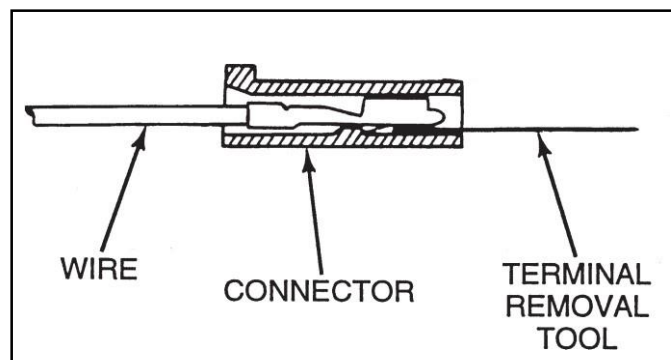

Figure 24
5. Insert an appropriately sized pick straight into the connector cavity from the mating end of the connector (Figure 24).